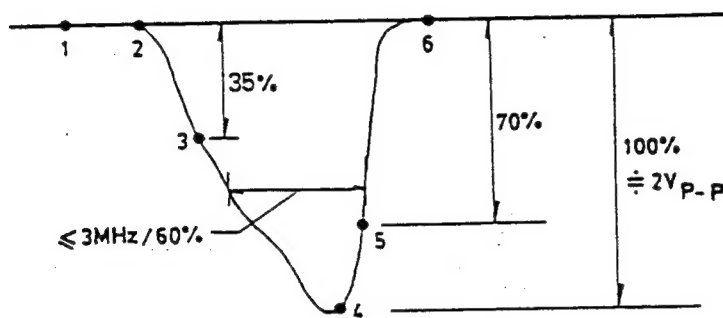

Fig. 11. P.I.F. Response Curve
5. Tune T102 for maximum gain of 38.9MHz as shown in Fig.11.
6. Tune T101 for maximum gain of 34.47MHz as shown in Fig.11.